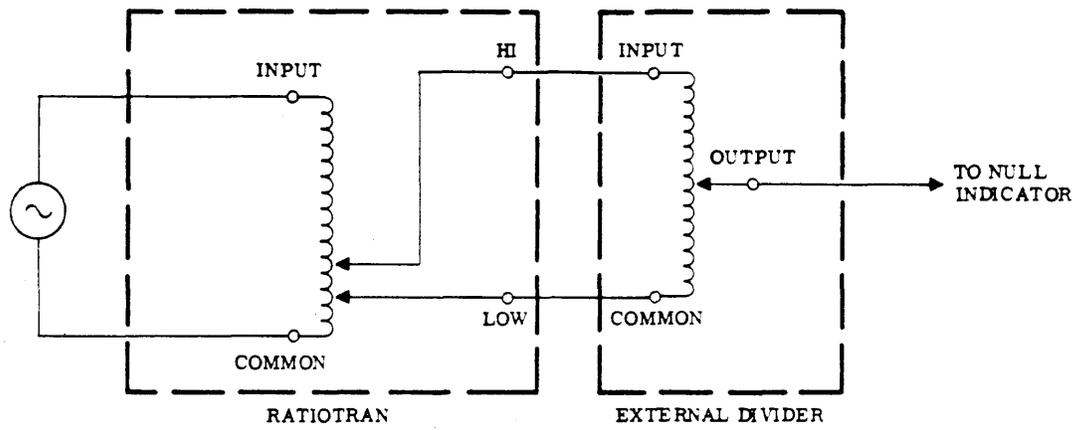

Figure 2-2. Cascade Output Connections
a. Connect external voltage divider across CASCADE OUTPUT connections as shown in figure 2-2.